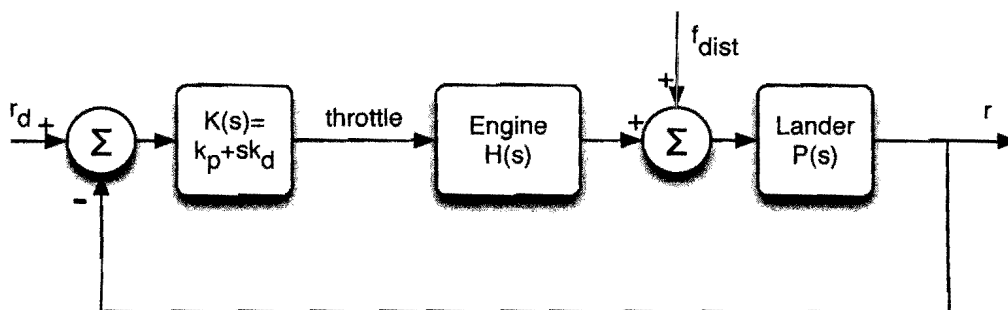

Figure 3
5. * Consider again the Mars Lander with $P(s) = \frac{1}{ms^2}$, engine model $H(s) = H_o$ and an altitude controller which sets the throttle to $k_p(r_d - r) + k_d \frac{d}{dt}(r_d - r)$ as in Figure 3, and with $m = 200\text{kg}$, $H_o = 1121\text{N}$.
in Figure 3. By evaluating the appropriate closed-loop frequency response (and *not* by evaluating the Laplace Transform of $100 \cos(0.1t)$), find the steady-state amplitude of the resulting oscillation in altitude and compare it with the steady-state amplitude in the absence of the stabilising feedback system.